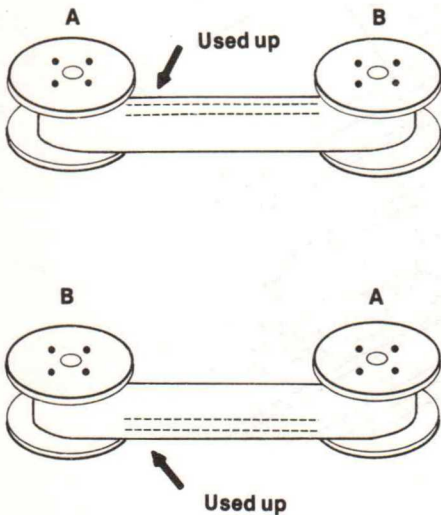

Figure 2-19. Turning the ribbon over gives you the same effect as having a new ribbon but at no extra cost.
- Hint #8:* As shown in Figure 2-19, you can turn the ribbon over and use the other side when it starts wearing out.